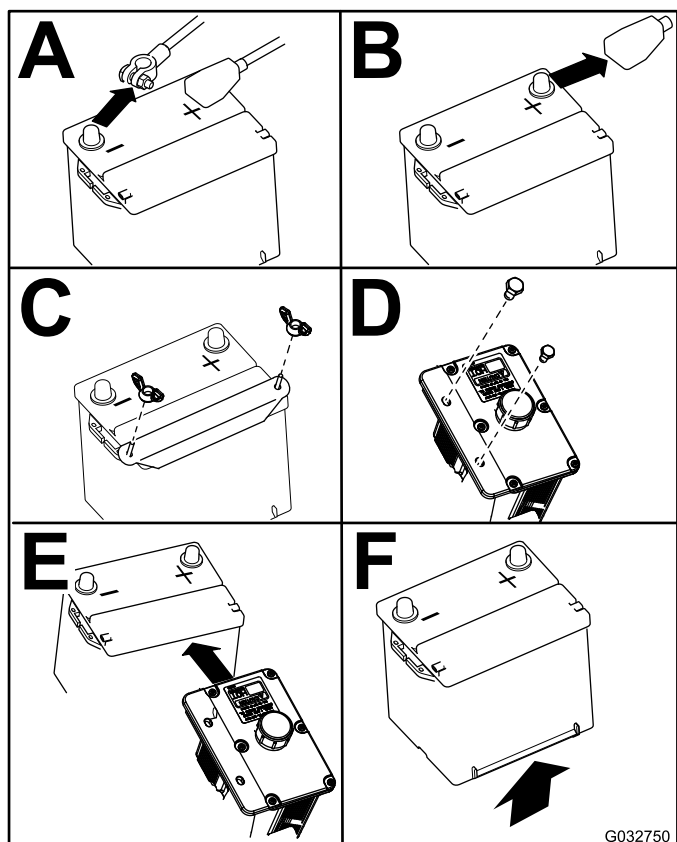

Figure 68
3. Remove the battery as shown in Figure 68.